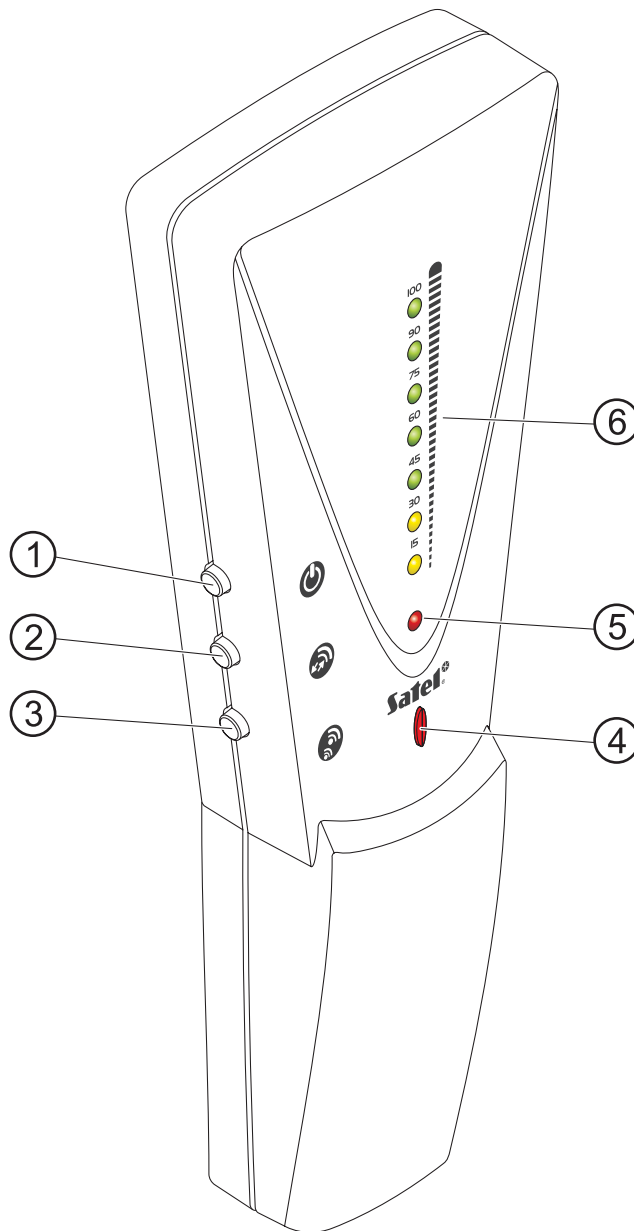

Fig. 1. View of the tester.
Explanations for Fig. 1:
- 2 – **button** (designated ) **for selecting operation mode of LED indicator** After the tester is switched on, the LED indicator will show the level of signal received by the tester from the controller. It is indicated by steady red light of the LED (designated in Fig. 1 with number 5). Press the button to switch over the indicator display mode to show information on the level of signal received by the controller from the tester (the red LED will start blinking). Press the button again to toggle between the LED indicator display modes.
- 3 – **button** (designated ) **for selecting power supply mode simulated by the tester of wireless device**. The power supply mode has an impact on radio signal level of the device. When switched on, the tester simulates operation of the wireless device supplied from external power sources. By pressing the button you will switch the tester over to the mode of simulating the battery-supplied wireless device. This mode is indicated by red light of the LED designated in Fig. 1 with number 4. If the signal level indicator LEDs are on, they will go off and will only come on during the next response time, when they will show the updated radio signal level. In this mode, light of the LEDs is dimmed. Press the button again to switch the tester over to the mode of simulating the wireless device supplied from the external power source. If you hold down the button for more than 3 seconds, the tester will enter the **dense polling mode** and will stay there as long as the button is depressed. In the dense polling mode, the information on radio signal level will be refreshed every 2 seconds. At the moment of updating the radio signal level data, the tester will generate 2 short beeps.